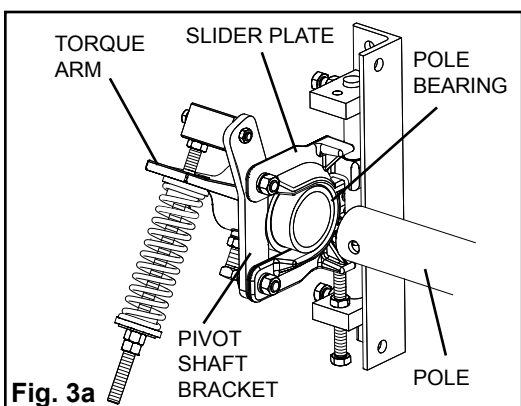

Fig. 3a
- Attach the pivot shaft bracket on one slider plate and insert one pole bearing with the flange facing away from the belt (Fig. 3a).